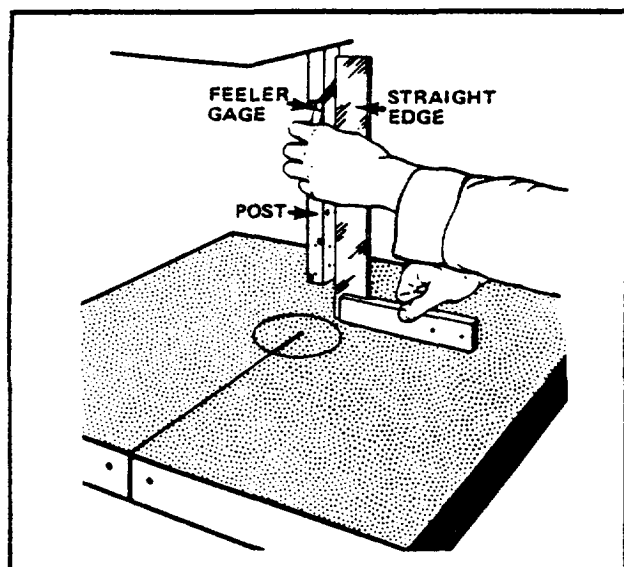

FIG. 3. SQUARING TABLE TO POST.
- (6) Square table to post side by loosening table tilt lock nut, and making necessary adjustment. Adjust tilt angle pointer to "zero", if necessary. Tighten lock nut. See Fig. 3.